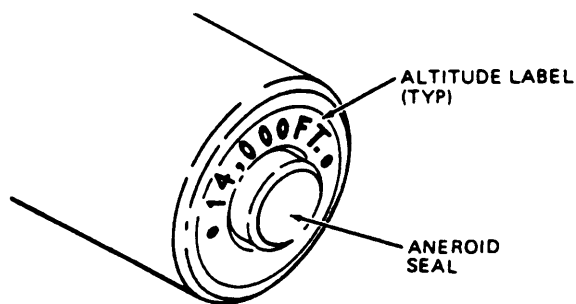

Figure 2-7.—Inspecting aneroid seal.
9. Check the sealing compound on the aneroid screw, shown in figure 2-7. The seal must be intact and undisturbed. Cracks due to normal aging of seal material are acceptable.